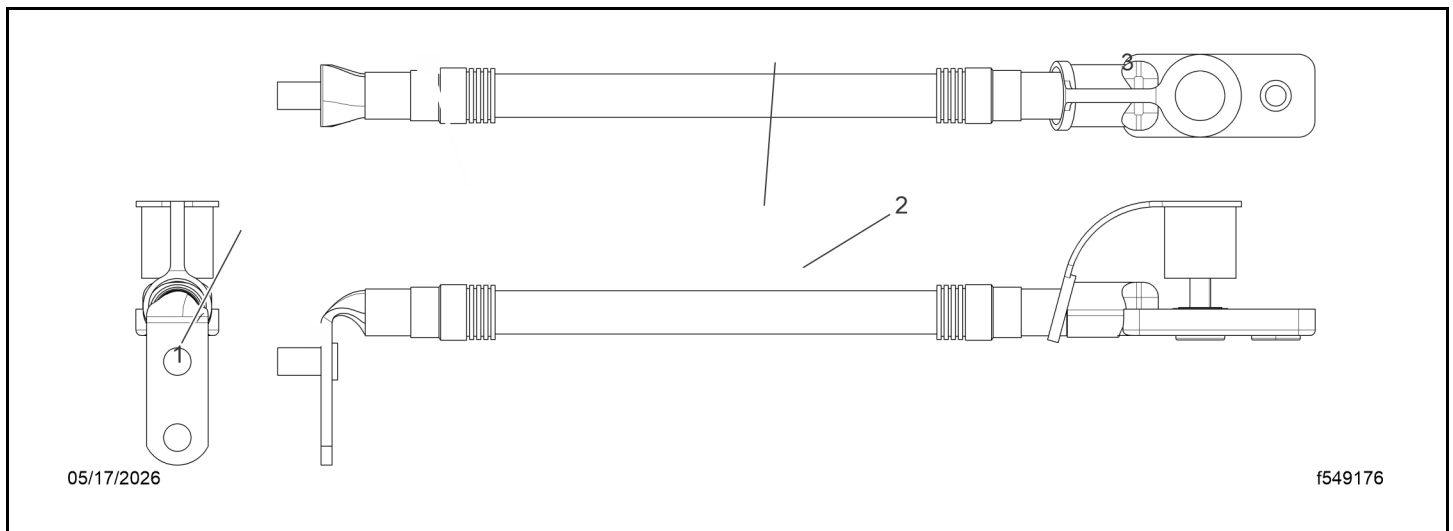

Fig 147, Jump-Start Cable Orientation
- g. Position the new terminal according to the orientation drawing. See Fig. Fig. 147.